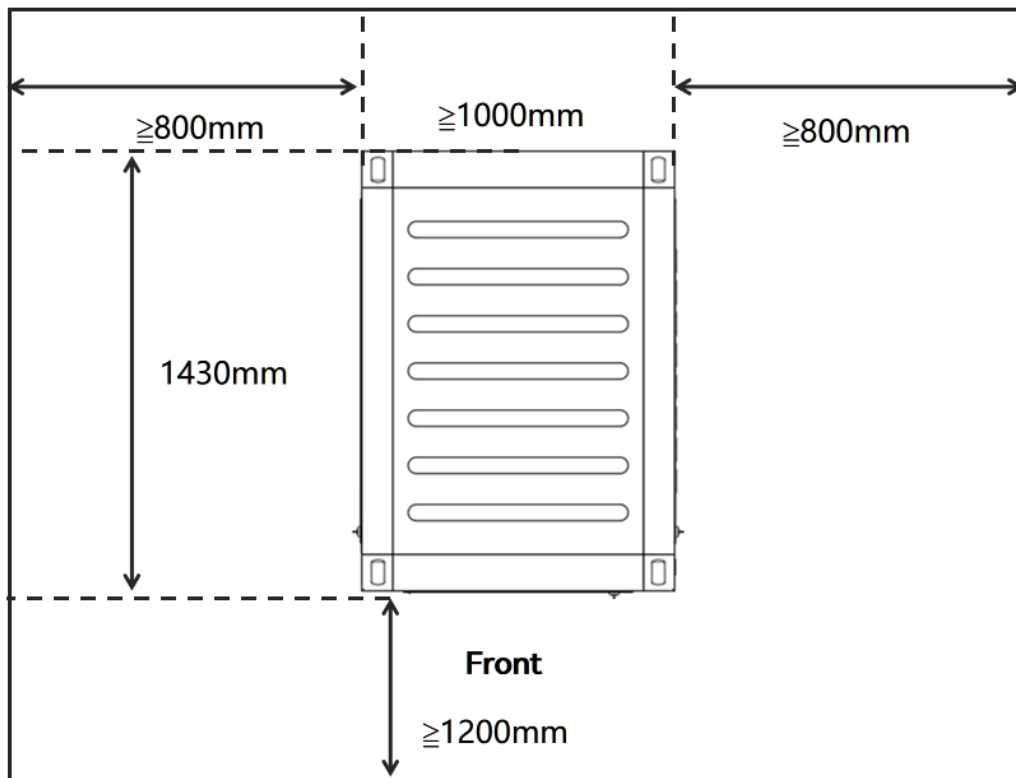

Figure 4.2-1
1. Select the installation position of the equipment in advance according to the product size, and ensure proper positioning and fixation; it is recommended that the foundation be as shown in Figure 4.2-1